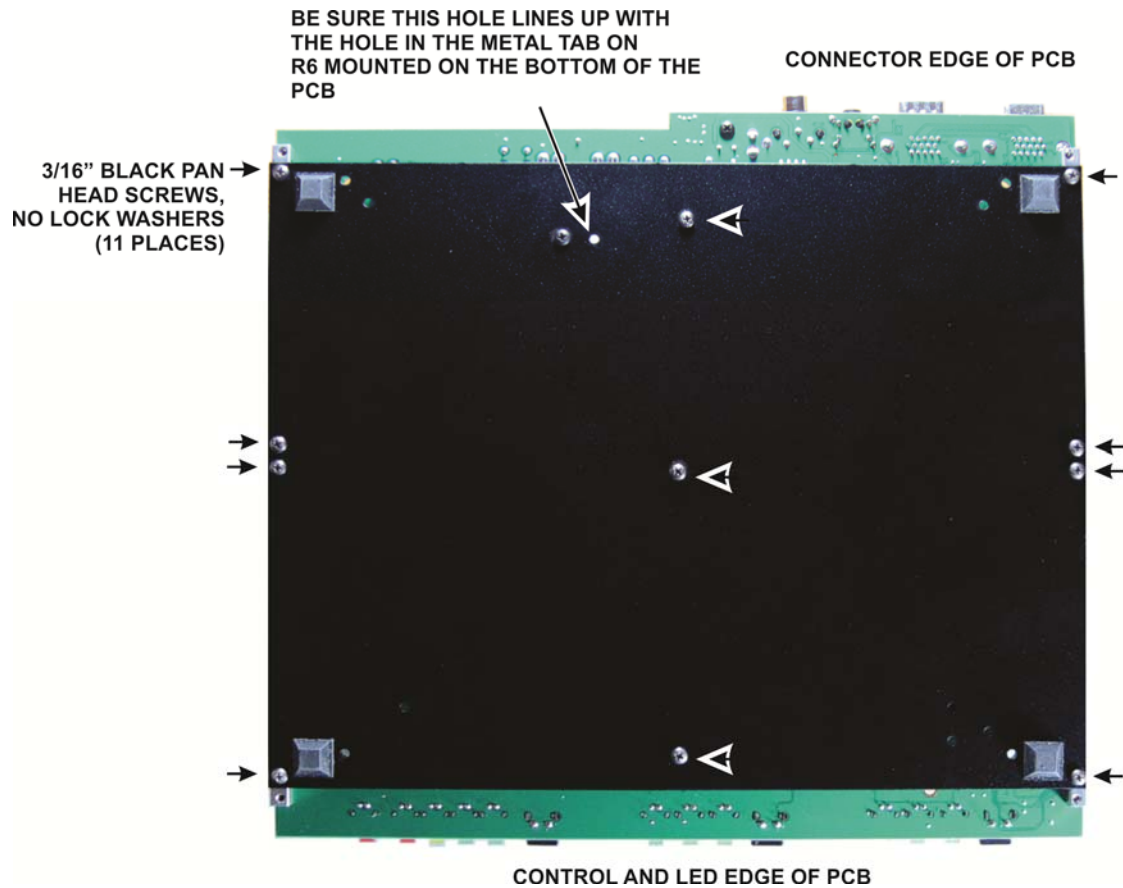

Figure 14. Installing the Bottom Cover.
□ Attach the bottom cover as shown in Figure 14. Note that the bottom cover only fastens to one of the two screw holes in each of the 2D fasteners mounted at the corners of the circuit board. The remaining screw holes in those 2D fasteners will be used to secure the front and rear panels. When positioning the bottom cover, be sure the open hole shown in Figure 14 lines up with the hole in the tab for R6 mounted on the circuit board.